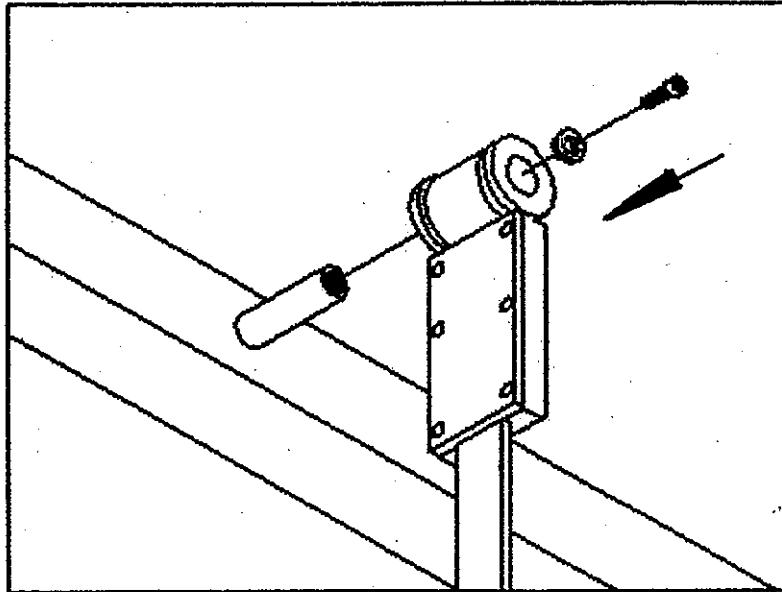

Fig. 18
4. Secure the end of the stair arm belt to its shaft with one screw and one washer on each side (see Fig. 18).